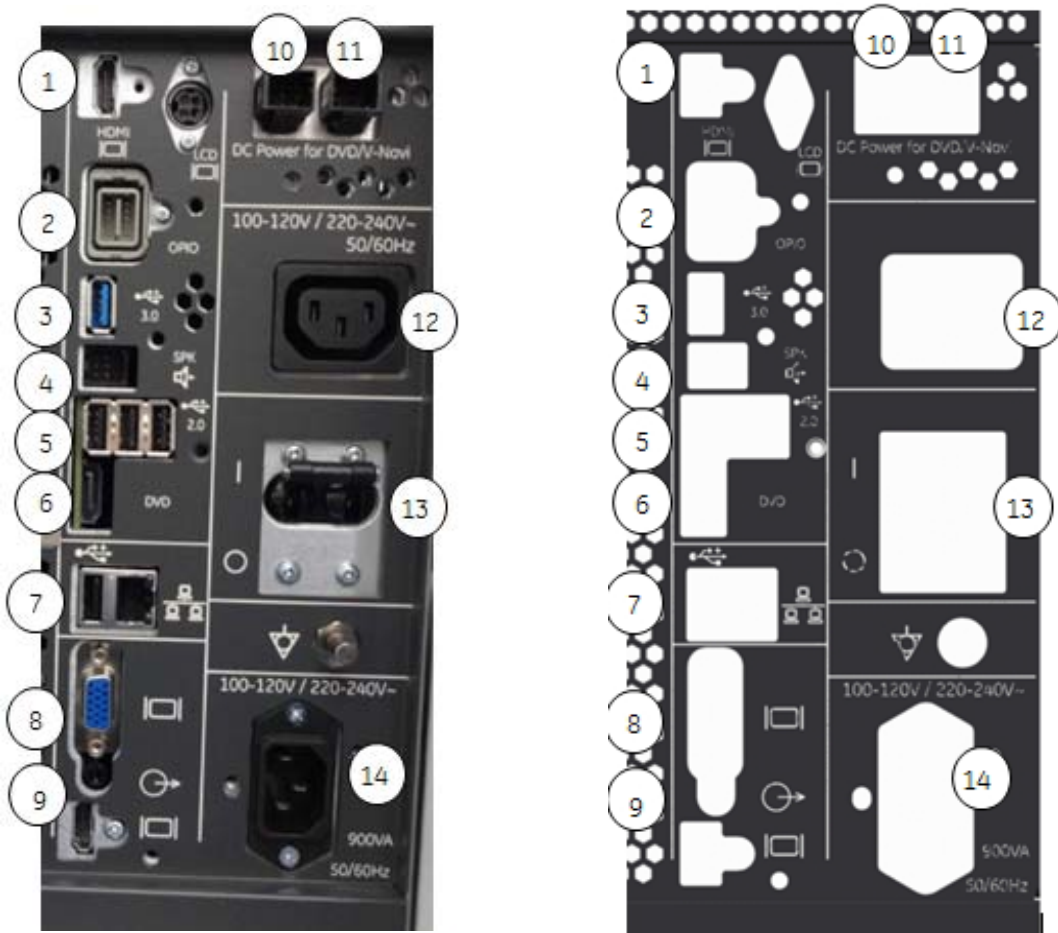

Figure 8-55 Cable Connection
- 2.) Disconnect 2 connectors. (DVD SATA CABLE, DVD POWER CABLE). Refer to the Figure 8-55 below.